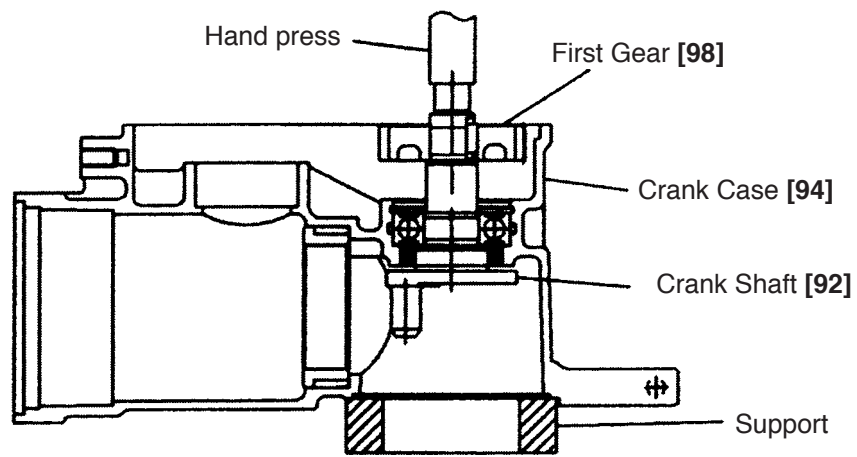

Fig. 20
Remove the Hex. Socket Hd. Bolt (W/Flange) M5 x 16 [102] and the Tapping Screw (W/Flange) D5 x 20 (Black) [103] from Handle (A). (B) Set [101] and separate Handle (A). (B) Set [101] from the Crank Case [94] and the Housing Ass'y [106]. Remove the Seal Lock Hex. Socket Hd. Bolt M6 x 45 [54] from the Crank Case [94] and separate the Crank Case [94] from the Housing Ass'y [106]. Place the Crank Case [94] on a support facing the Connecting Rod [45] downward and press the end face of the Crank Shaft [92] with a hand press to remove the Crank Shaft [92] and the First Gear [98]. (Fig. 20)